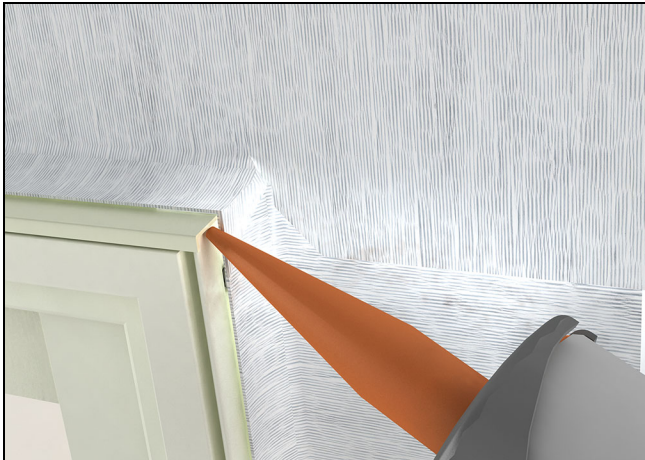

Figure 17
10. Seal the ends of the vinyl drip cap or rigid head flash, by injecting sealant at each end. See Figure 17.